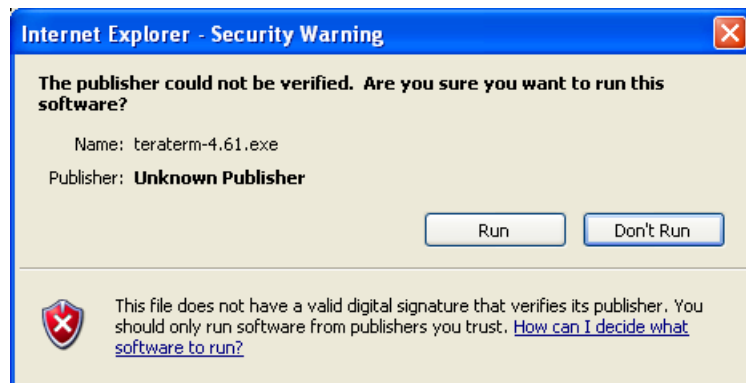

Figure 6-12: Internet Explorer Security Warning
6. If the security warning screen appears, click **Run** (Figure 6-12).